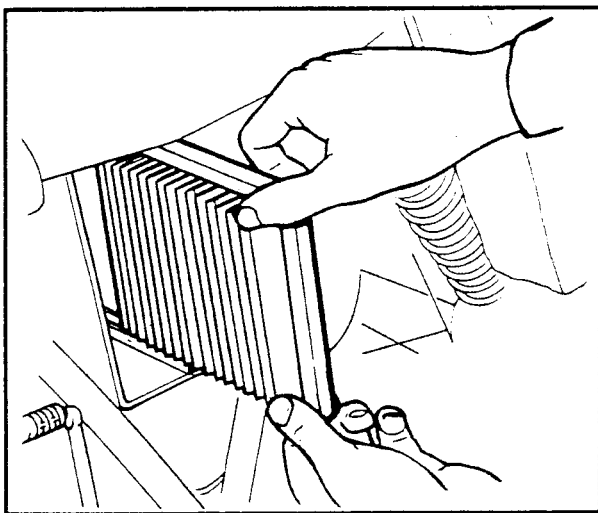

Figure 3-15. Air Filter
3. See Figure 3-15. Remove the filter and clean the inside of the airbox.